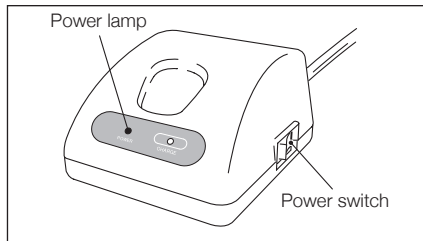

Fig. 5
- 3) Turn on the power switch. At this time, check that the power lamp lights. (Fig. 5)